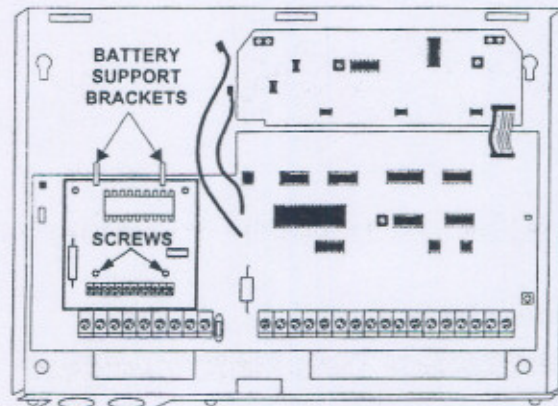

Figure 4. Installing the Circuit Board on the Panel
- a. If installing the circuit board on the panel, turn off the panel power switch and mount the bus interpreter module circuit board with the screws included (see Figure 4).